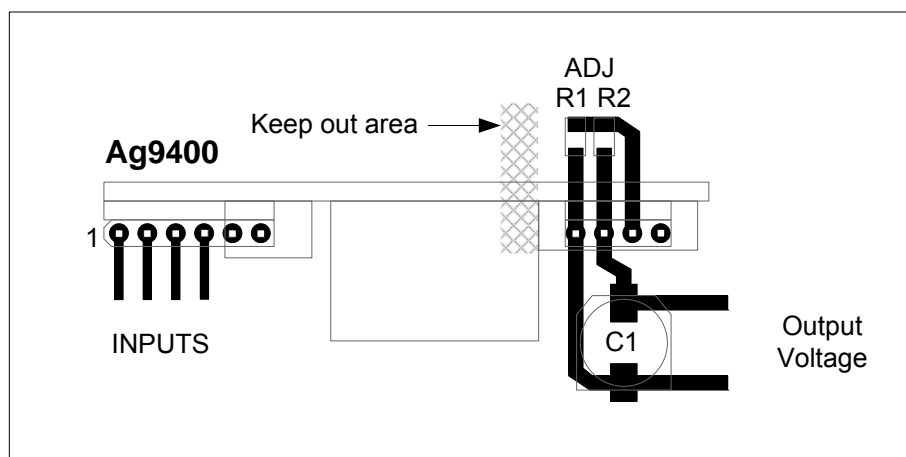

Figure 7: Typical Layout
To meet the safety isolation requirements of IEEE802.3af section 33.4.1 a Powered Device (PD) must pass the electrical strength test of IEC 60950 sub clause 6.2. This calls for either a) 1500Vac test or b) 1500V impulse test. The Ag9400 is specified to meet the 1500Vdc impulse test. It is also important that the tracks on either side of the isolation barrier have at least a 3mm clearance, see Figures 7 & 8 and Section 11 for more information.
Figure 7: Typical Layout gives an example of the tracking needed for the Ag9400. R1 and R2 are optional components, C1 must be fitted. The thermal performance of the Ag9400 can be improved by increasing the surface area of the output tracks (+VDC and -VDC). This is not applicable if the Ag9400 is in a socket.